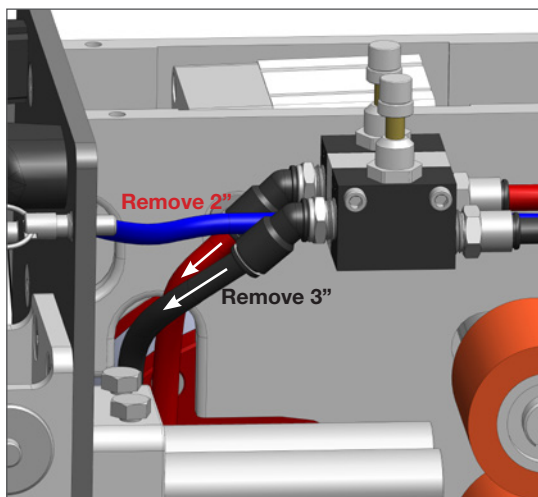
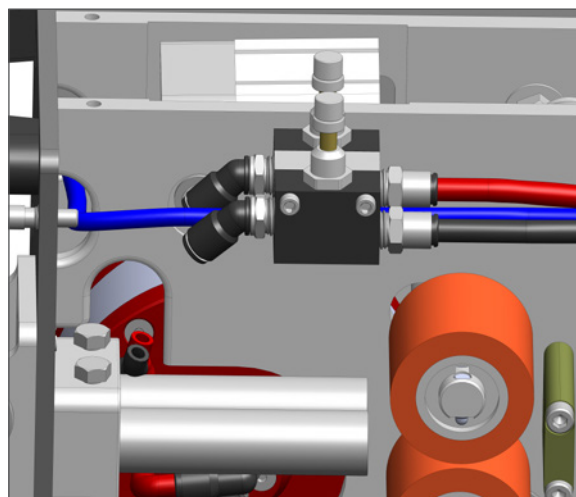

FIGURE 1
FIGURE 2
1. Install the 3 JIC fitting assemblies to the new AutoStroke Air Manifold. Use pipe dope or tape on the NPT tapered threads. Re-attach the air manifold using the 2 hex head bolts that were reserved from the original manifold assembly. **(FIGURE 1)**
2. Reconnect the 3 air tubes (blue, red, and black) to the push-to-connect fittings on the bottom of the air manifold. **(FIGURE 2)**
1. Disconnect the red and black air tubes from the fittings on the left side of the flow controls. **(FIGURE 1)** Cut exactly 2 inches off the end of the red tube and 3 inches off the black tube. **(FIGURE 2)**